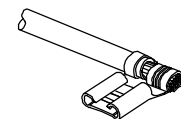

Figure 2
Select an appropriate terminal, contact, or splice for the tool. Strip the wire to the proper length (determine strip length by adding 0.79 [0.031] ($1/32$) to the length of the wire barrel). Refer to Figure 2.
1. Center the wire barrel in the appropriate wire barrel crimper. Refer to Figure 2.
1. Center the insulation barrel in the appropriate insulation barrel crimper. Refer to Figure 2.